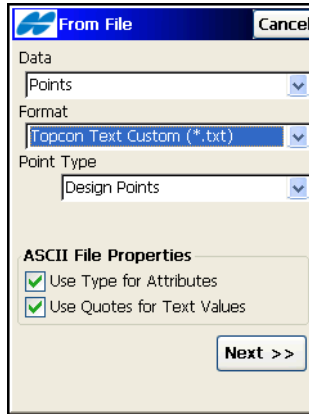

Figure 5-10. From Text File
1. If data type is Points or Point Lists, select the point type to import from the *Data* drop-down list (Figure 5-10). If the Text file type is chosen, check the *ASCII File Properties* field buttons, if necessary. These conditions use the same type attributes and quotes for the text values.